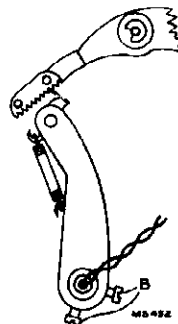

Figure 6
Loosen set screws "B" (Figure 6).
4. Tighten the black screw "B" and allow the mechanism to run through cycle automatically. If landing is correct, tighten copper plated screw "B." (Figure 6.)